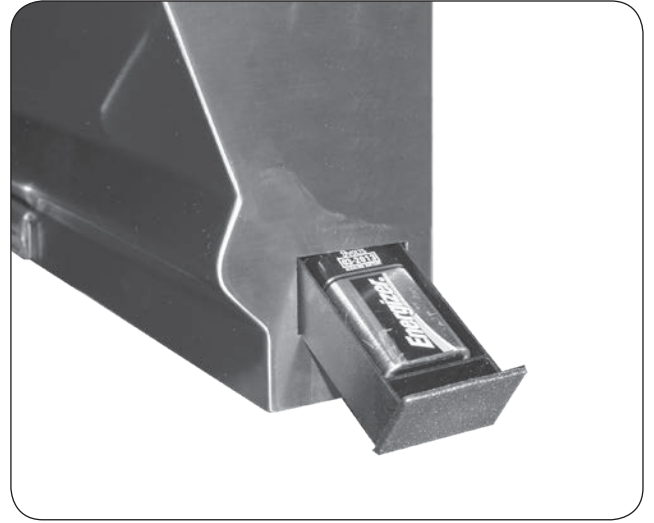

Fig. 31-1 Replace igniter battery
2. Disconnect the battery from the connector and replace it connecting the new battery and close the drawer (see Fig. 31-1).